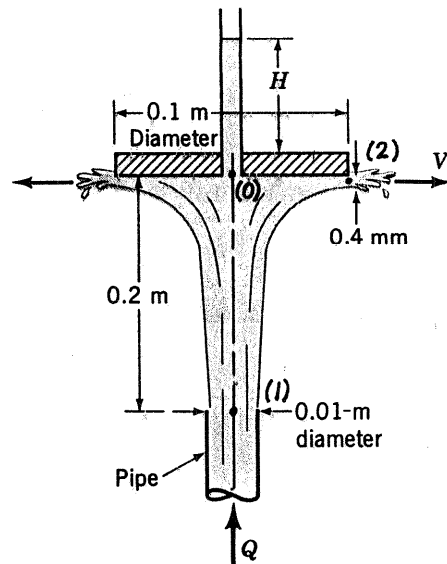

FIGURE P3.85
3.85 Water flows from the pipe shown in Fig. P3.85 as a free jet and strikes a circular flat plate. The flow geometry shown is axisymmetrical. Determine the flowrate and the manometer reading, H .